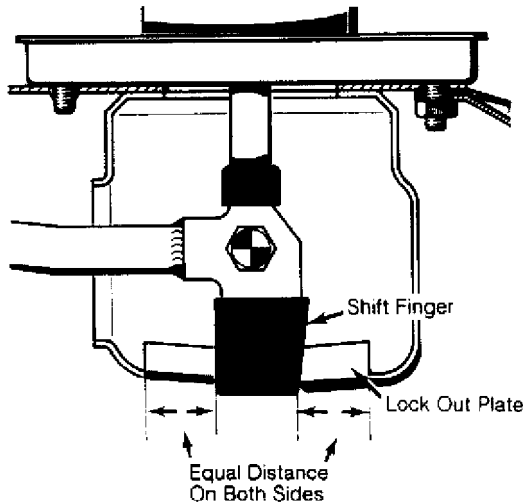

Fig. 1: Adjusting Shift Finger (Cabriolet)
1) Pull boot from housing. Loosen shift rod clamp bolt so lever moves freely on shift rod. Adjust shift finger in center of lock-out plate so that there is an equal distance on both sides of shift finger. See Fig. 1.